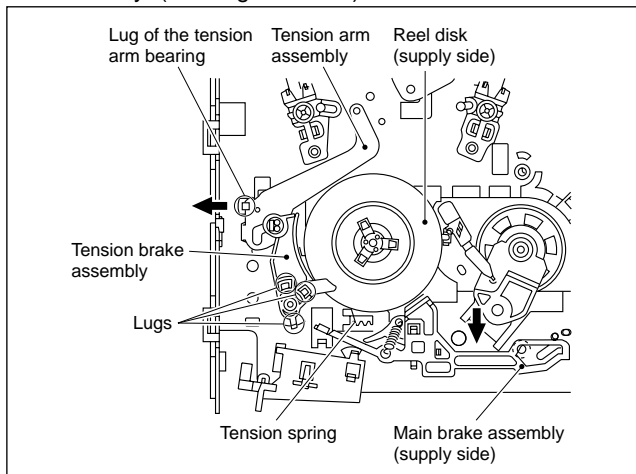

Fig. 2-2-21a
- (1) Remove the three lugs of the tension brake assembly from the main deck and pull them off.
- (2) Remove the reel disk (supply side) by loosening in the arrow-indicated direction the main brake assembly (supply side).
- (3) Remove the tension spring on the back of the main deck. Then release the lug of the tension arm bearing in the arrow-indicated direction and draw out the tension arm assembly. (See Fig. 2-2-21a.)